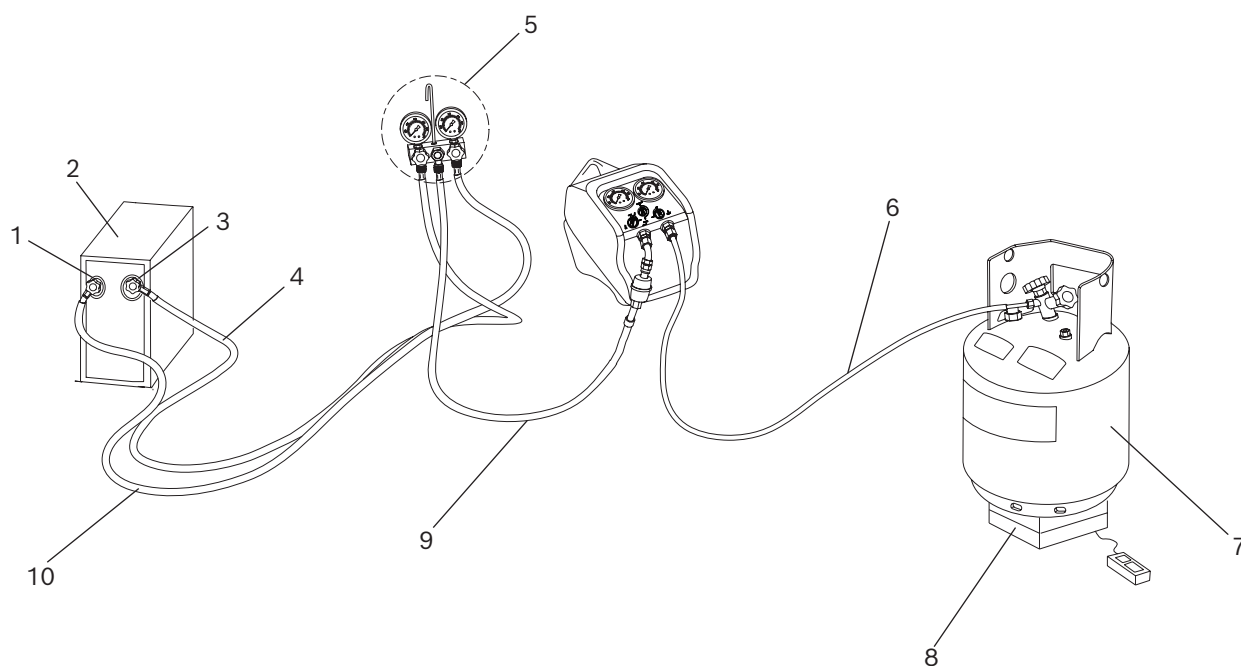

Fig.3: Normal recovery
3. Connect the RG4.0 to the system being serviced according to Fig. 3.